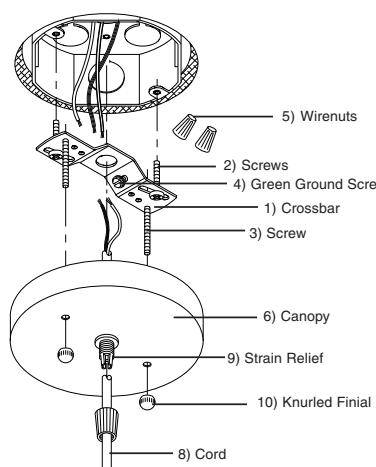

Figure 2
2. Fully thread (2) #8-32 X 1 1/2" Screws into the Crossbar, 2 3/4" apart, facing downward. See Fig. 2.
3. With the power turned off, attach the crossbar to the junction box by inserting the (2) #8 x 1" machine screws through the slots in the crossbar into the junction box. (head of green screw should face downward). See Fig. 2.
2. Rosque completamente los (2) Tornillos #8-32 X 1 1/2" en la barra transversal, 2 3/4" aparte, mirando hacia abajo. Vea Fig. 2.